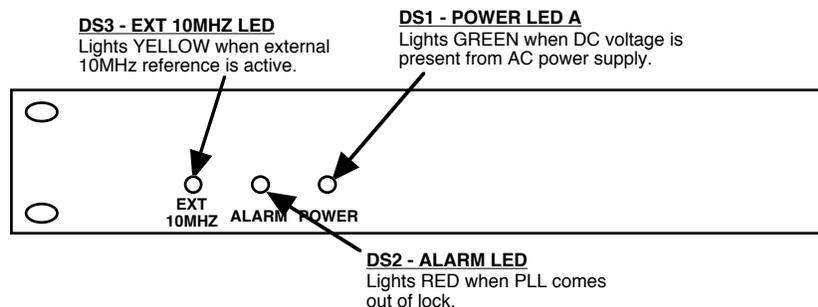

FIGURE 2.2 2116-107 Front Panel Controls and Indicators
Figure 2.2 shows the front panel indicators.
4. Be sure DS1 (green, DC Power) is on and DS2 (red, Alarm) is off (Figure 2.2).
6. If EXT is selected or AUTO is selected and there is a 10MHz, 3 dBm signal at J2, check that DS3 (yellow, Ext 10MHZ) is on (Figure 2.2).